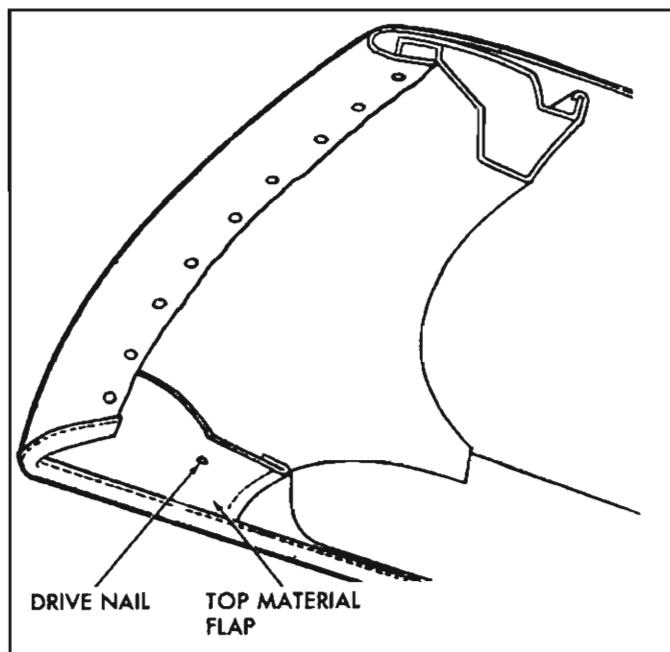

Fig. 40—Top Material at Front Roof Rail
4. Loosen front end of each side roof rail front weatherstrip sufficiently to detach top material flaps which are cemented to rails (fig. 40).